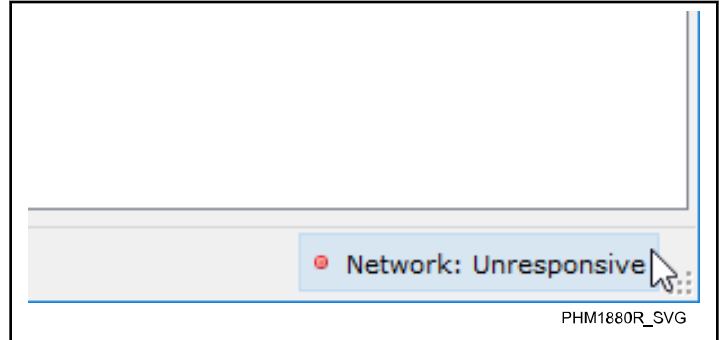

Figure 47
1. In the software window's lower-right corner, click the **Service status** button. Refer to *Figure 47*. The "Service Control" window appears.